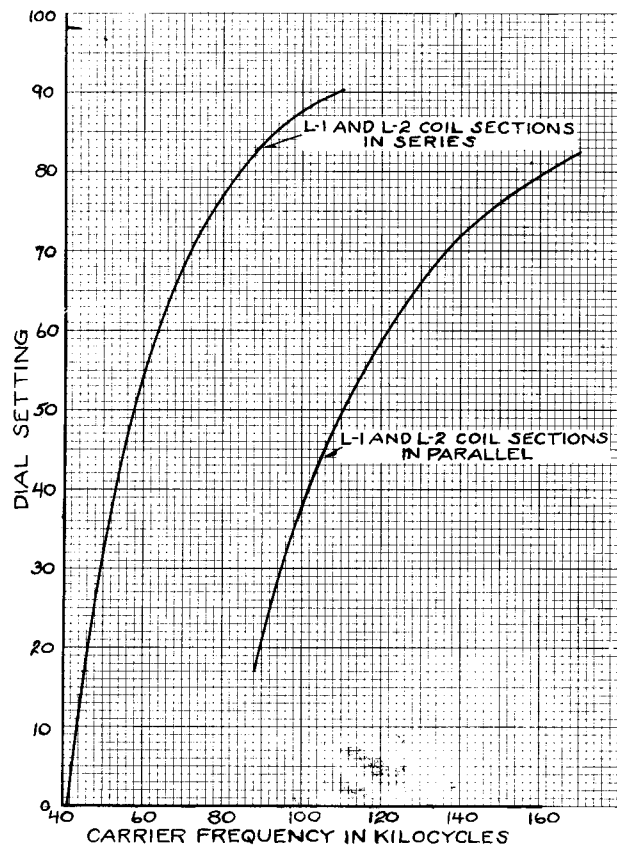

Figure 3
- b. Set the PRIMARY TUNING NO. 1 and the SECONDARY TUNING NO. 1 dials for the desired frequency as indicated on dial calibration curves, Figs. 3 and 4. Use the "L1-L2 Sections in Series" curve on the 50-150 kc receiver for frequencies below 100 kilocycles and the "L1-L2 Sections in Parallel" curve for frequencies above 100 kilocycles. For exactly 100 kc the parallel connection is recommended. These curves show the approximate dial settings.